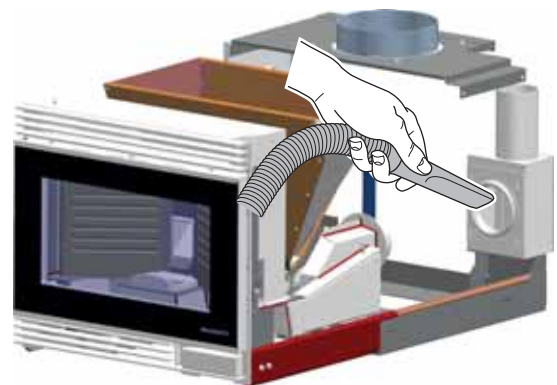

Fig.7.7
Clean the TEE pipe with ashtray. (Fig. 7.7).
- B) remove the inspection plate stop (Fig. 7.7);